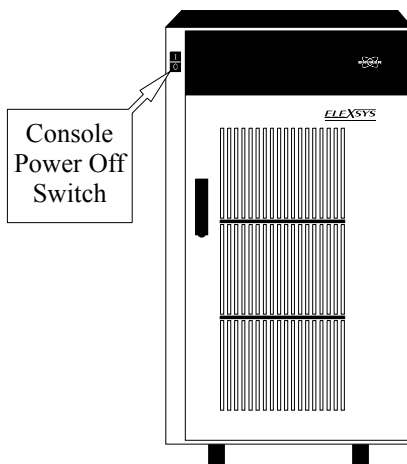

Figure 3-32 The location of the console power switch.
12. **Turn off the power for the console.** The power switch (red button) for the console is located in the upper left corner of the console. (See Figure 3-32.)